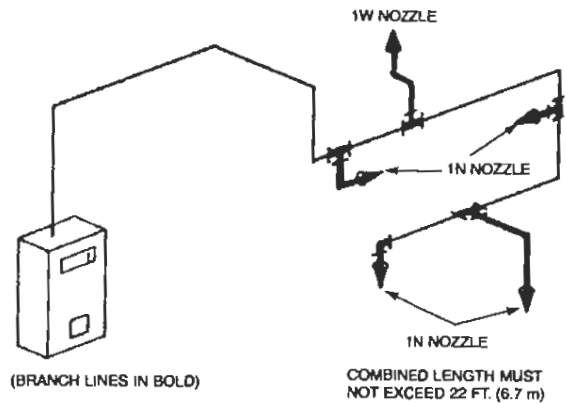

FIGURE 112
- 5. The combined length of all branch lines must not exceed 22 ft (6.7 m). See Figure 112.